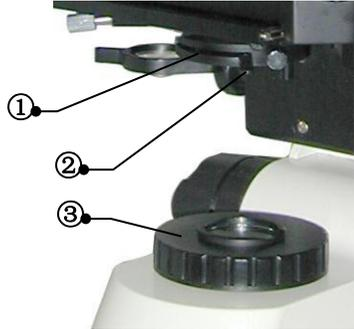

Fig.4
2. Open the iris diaphragm ① under the Abbe condenser. Clockwise turn iris diaphragm lever ② to make the iris diaphragm larger. Counterclockwise turn to smaller. Then open field diaphragm ③, Clockwise turn field diaphragm plate to make the field diaphragm larger. Counterclockwise turn to smaller. See fig.4.